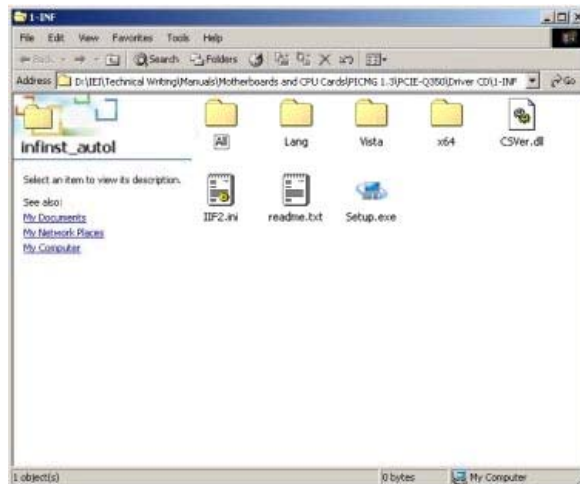

Figure 7-4: Intel® Chipset Driver Directory
Step 2: The window shown in **Figure 7-4** appears.
Step 3: Click on the **Setup.exe** setup icon in **Figure 7-4**.